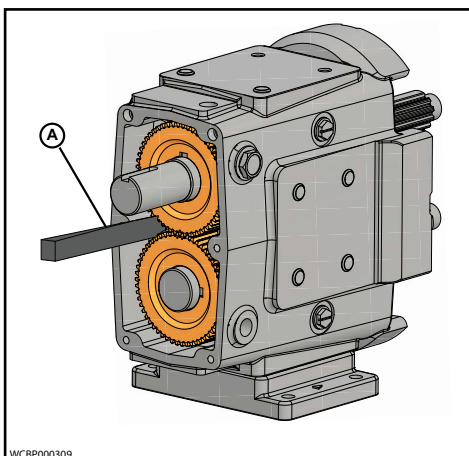

Figure 92 - Block Shaft Rotation
4. Use a wood or nylon block (Figure 92, item A) to keep the shafts from turning. If a block is not available, use rags to block the gears, or with one rotor on the shaft, block the rotor with a nylon dowel.